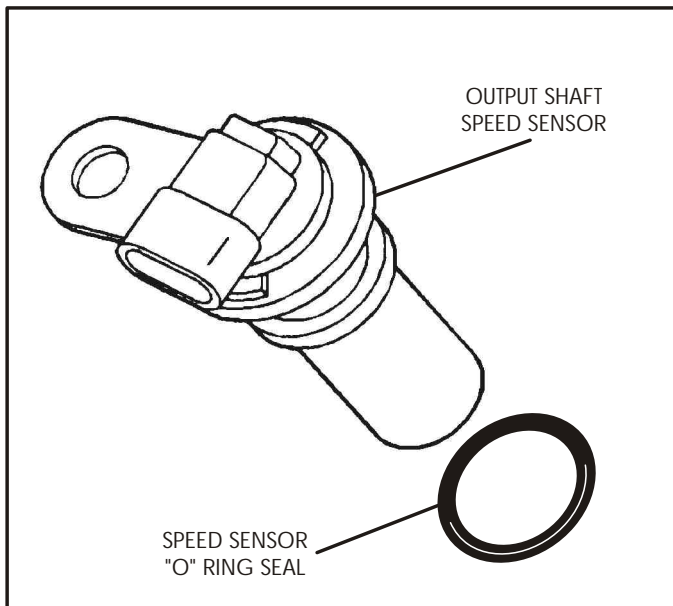

Figure 210
35. Install new "O" ring seal on the output speed sensor and lubricate with petrolatum, as shown in Figure 210.